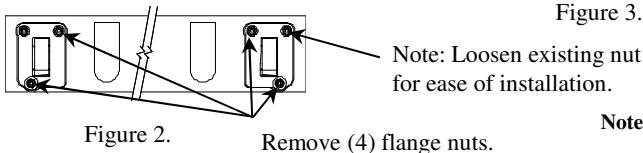

Figure 2.
1. Remove lower fascia trim on the rear of the vehicle by removing the (5) fasteners and (2) plastic rivets that secure the bottom fascia to the vehicle. Punch out the center of the rivets head by using a small punch or blunt nail. Carefully slide screwdriver or trim panel tool between the panels covering to loosen rivets, and remove remaining rivet head. Working your way from outside (rivet location), slowly pull up fascia trim.
2. Remove or loosen the (2) rear appearance panels on the bottom of the vehicle for additional clearance during hitch installation if necessary.
4. Remove the (4) flange nuts from the bumper. See Figure 2.